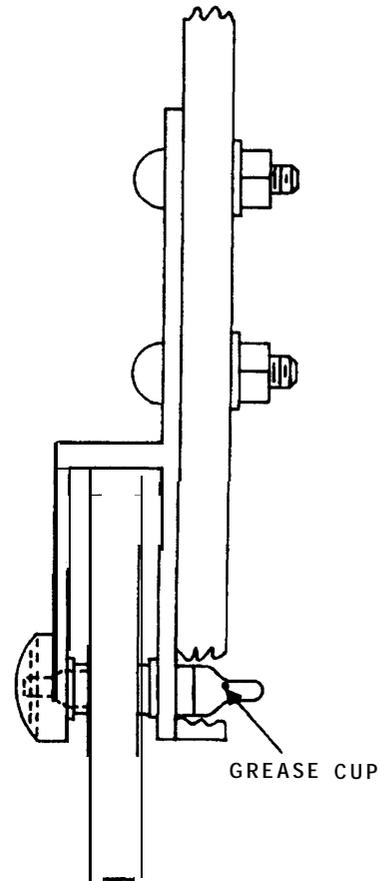

Figure 2. Lubrication of the New Type Metal Wheel.
4.07 To grease a new type of metal wheel, tighten the grease cup. Tighten the grease cup until a small amount of grease appears on the axle. Refer to Figure 2. If a cup is tightened to the limit, remove the cup, fill the cup, and replace the cup. Fill the cup with plastic petroleum. Avoid excess lubricant as it tends to collect dust and dirt.